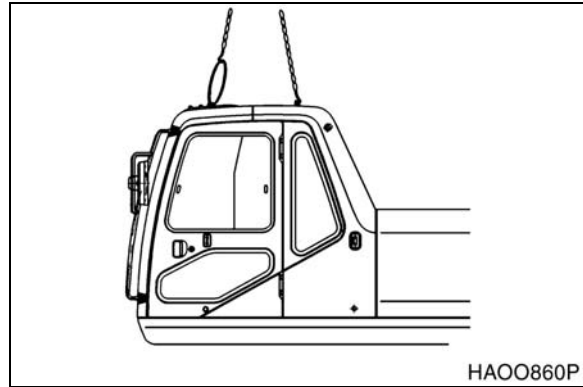

Figure 8
- Using a suitable lifting device, attach slings to four lift points on top of cab (Figure 8).